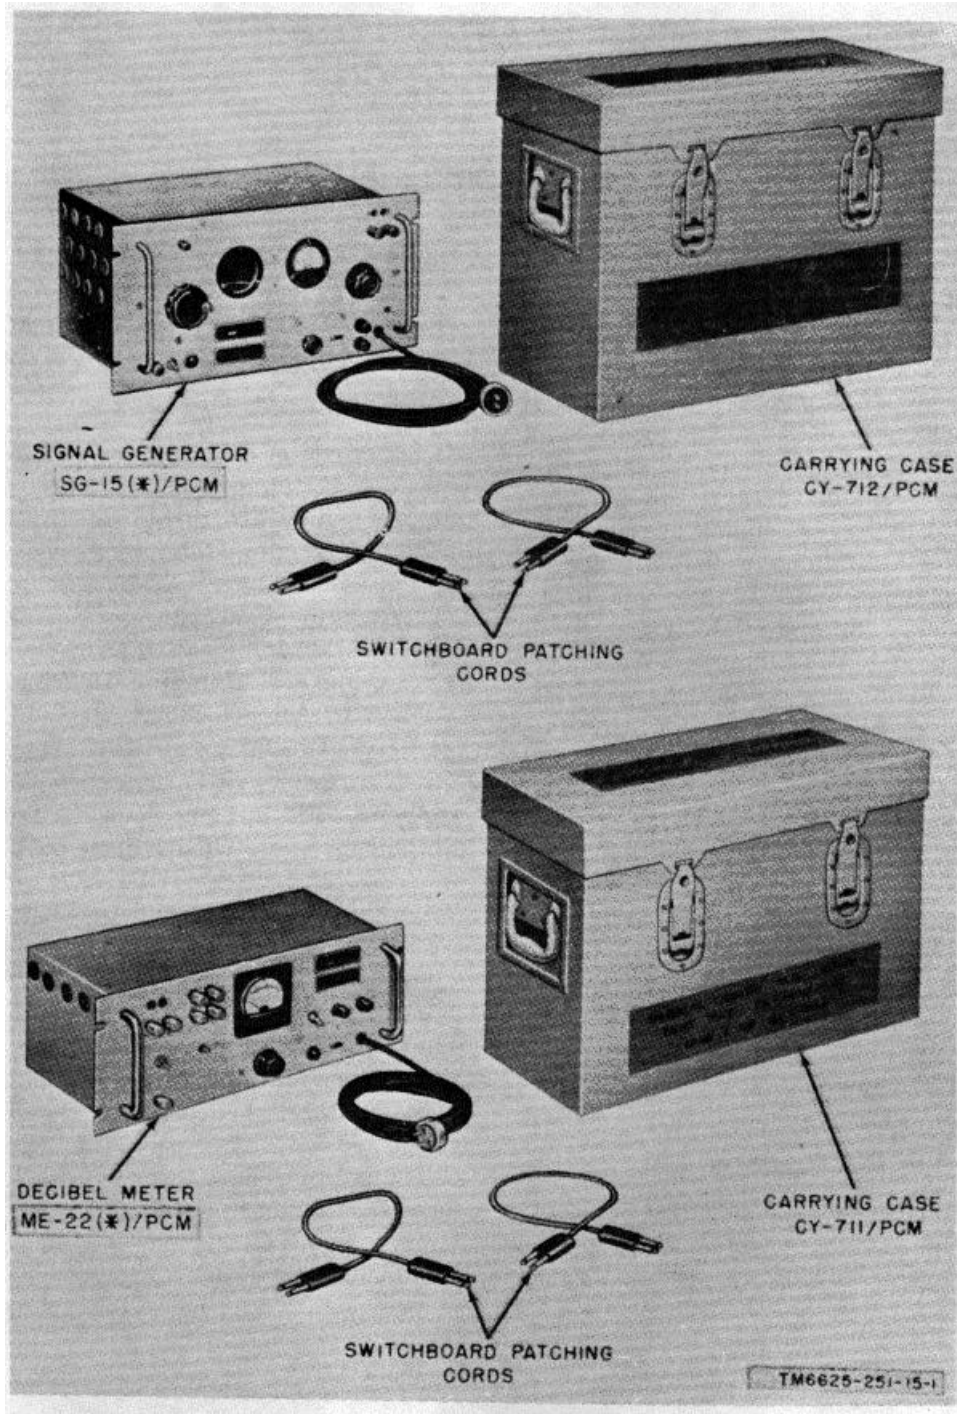

Figure 1-1. Test Set TS-140/PCM less running spares and technical manuals.
a. This manual contains a description of Test Set TS-140/PCM (fig. 1-1), and includes operating instructions, organizational maintenance information, the theory of operation, repair of the equipment, instructions for removing the equipment from service and repacking for shipment or limited storage, and instructions for demolishing the equipment to prevent enemy use.
Test Set TS-140/PCM (fig. 1-1) which consists of Signal Generator SG-15(*)/PCM (*a* below) and Decibel Meter ME-22(*)/PCM (*b* below), is a portable test set designed for making transmission measurements of v-f (voice-frequency) and carrier equipment in the frequency range of 200 cycles through 35 kilocycles. It also is used for testing wire and cable lines to determine their suitability for use with such equipment in communication systems. Gain and loss may be measured directly by Test Set TS-140/PCM since the front panel controls and meters of both the signal generator and the decibel meter indicate power levels in dbm (decibels referred to 1 milliwatt in 600 ohms). Cross talk also may be measured by using the gain and loss measurement technique and making measurements through the entire frequency range of the equipment or wire line under test.